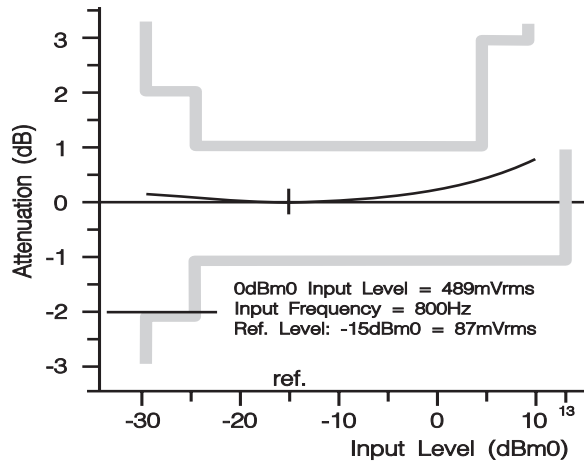

Figure 4: Gain vs. Input Level (16kbps)
- Recommended values – See Figures 4, 5, 6, and 7.